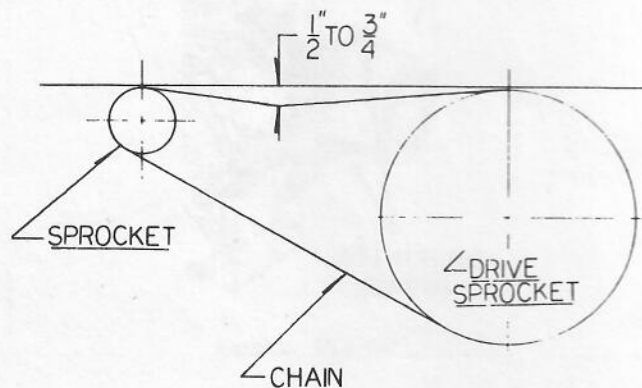
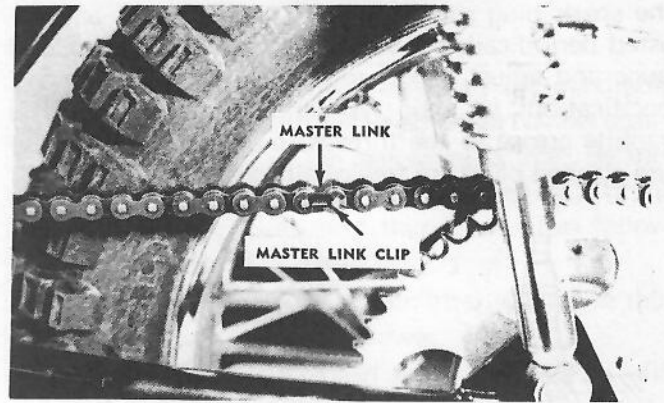

Figure 7. Chain Tension
Figure 8. Chain Master Link
First practice moving in a straight line then try large circles, then tighten the circles, and lastly try figure 8's. In order to do this smoothly and under complete control, you must know how to operate the clutch, or the gears and clutch, along with the throttle.
4. Keep chain adjusted properly (see figure 7).
Proper chain tension provides good performance and long chain and sprocket life. The chain should be adjusted for between $\frac{1}{2}$ " and $\frac{3}{4}$ " tension under finger pressure. See figure 7. A master link is provided for easy removal of the drive chain. The master link retaining clip should always be installed with the closed end in the direction of chain travel (see figure 8).